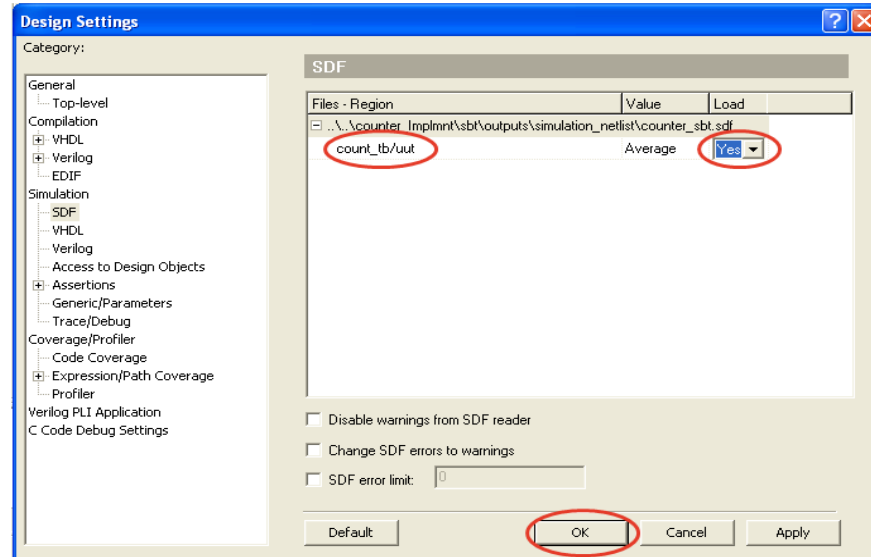

Figure 10-23 : Set SDF Options.
9. Select Design→Settings to I open up the “Design Settings” Wizard. Select SDF in the category panel. Set the Region to “count_tb/uut” and change the Load option to “Yes” as shown in Figure 10-23. The SDF value selection can be set to “Minimal”, “Average” and “Maximal”. The value is set to “Average” by default. Click on “OK” icon to close the wizard.